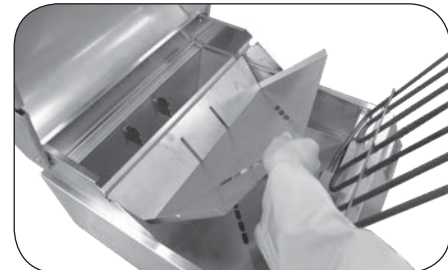

Fig. 20-4 Remove rear liner
5. Lift the rear liner slightly up to clear the tab, then forward and out (Fig. 20-4).